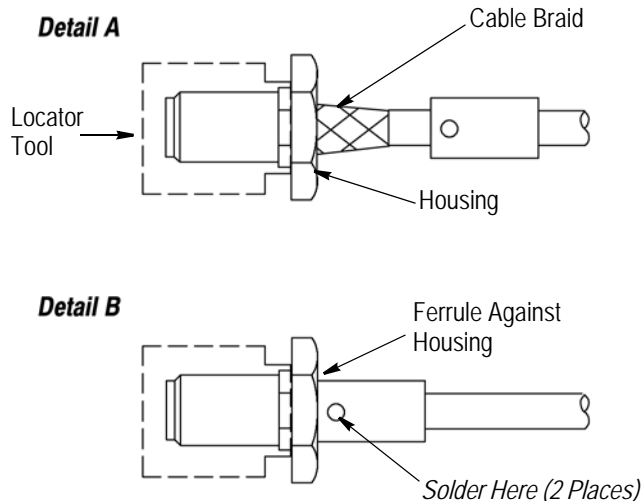

Figure 4
6. Insert the contact into the back of the housing until it is firmly seated. DO NOT allow the cable braid to enter the housing. Refer to Figure 4, Detail A.
7. Slide the ferrule over the cable braid and against the housing. Holding the cable firmly in position, solder the cable through the holes in the ferrule. Trim excess cable braid strands. See Figure 4, Detail B.